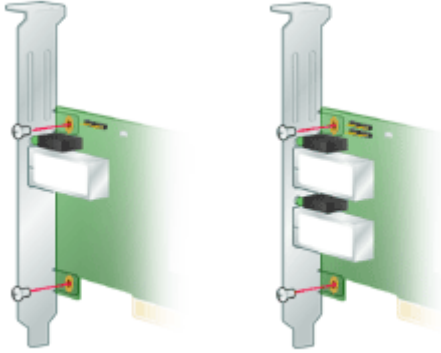

FIGURE 2 Removing the bracket
- a. Remove the mounting bracket screws from the HBA (see FIGURE 2).